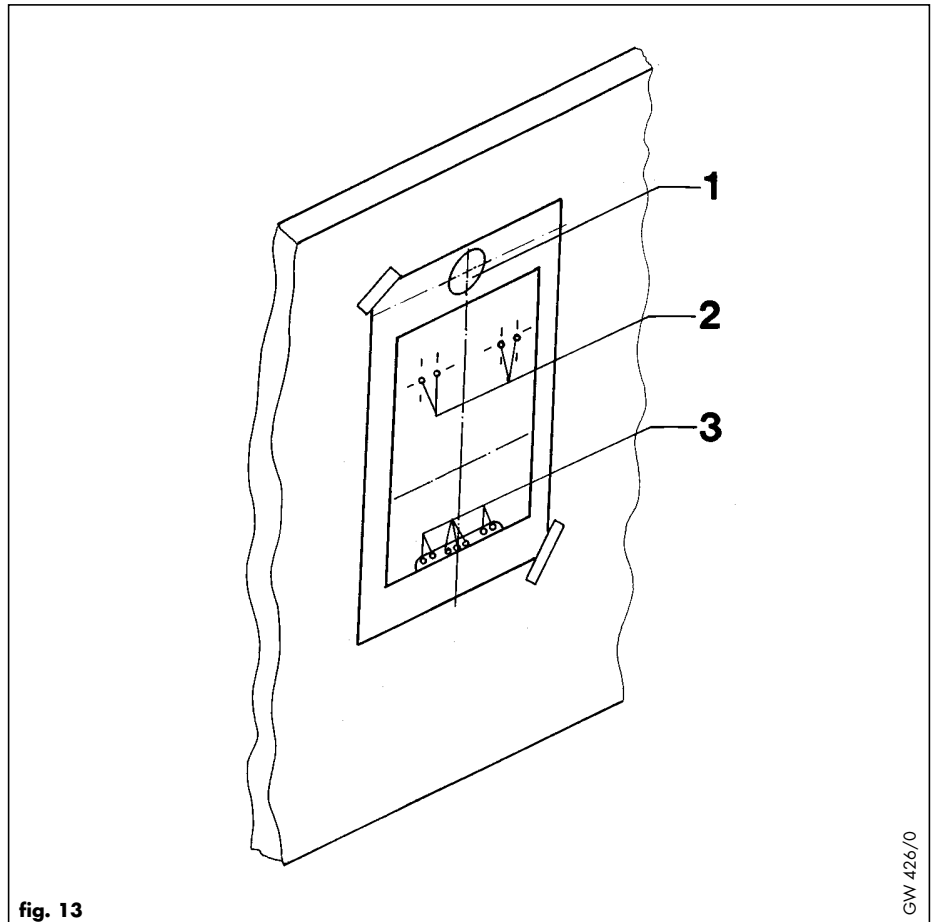

fig. 13
4.3.2 Using the boiler template (fig. 13)